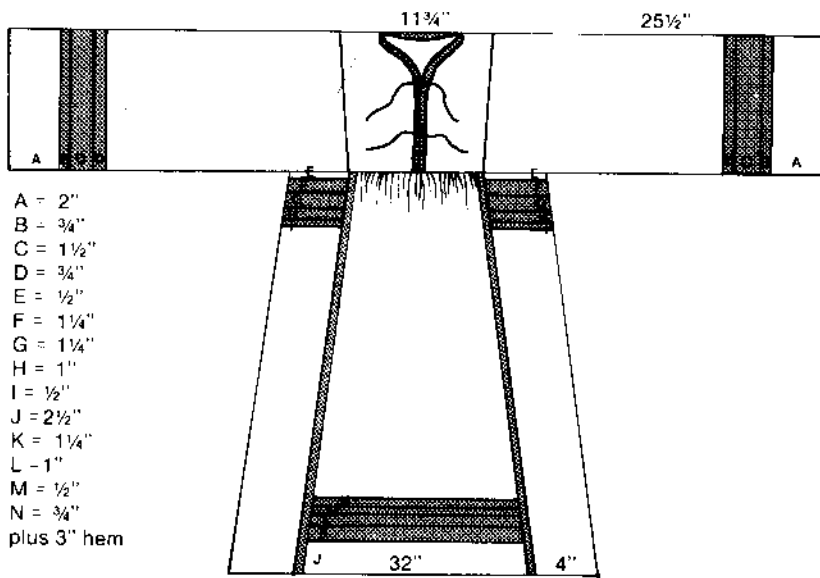

FIGURE 5. Assembly diagram
**Weaving pattern #2:** See Fig. 5. Alternate a tabby pick and a pattern pick.
**Construction:** Begin assembling the stole by cutting the handwoven fabric in half and cutting two lining pieces and two interfacing pieces the same size as the stole pieces. Lay one half of the handwoven stole on the table top with the right side up, place a lining piece right side down and top with a piece of interfacing. Pin all three layers together with pin heads toward the edge of the fabric. Mark the neck edge pattern on the interfacing, using Fig. 5 as a guide. Cut all pieces to proper size at neck edge. Sew side seams together on the sewing machine, carefully removing the pins. I prefer to sew with the handwoven fabric on top so that any bubbling that may occur can be eased in carefully.
fabric is red. It has a full gathered skirt. All the pieces, except the lining of the yoke, are rectangles. See Figs. 5 and 6 for measurements and cutting pattern. When cutting the patchwork fabrics according to Fig. 5, remember to allow 1/2" for seams and 3" for the hem. Do the patchwork before assembling the dress.